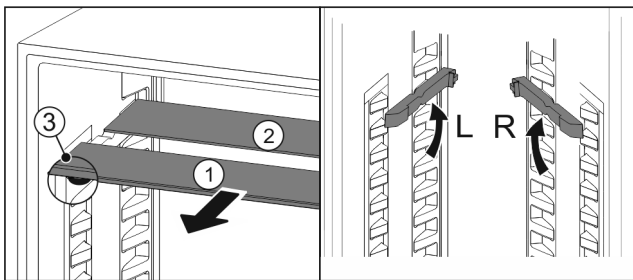

Fig. 21
- ▶ Pull the shelves out Fig. 21 (1) to the front one by one.
- ▷ The shelf Fig. 21 (1) with the trim strip is at the front.
- ▷ The stops Fig. 21 (3) point downward.